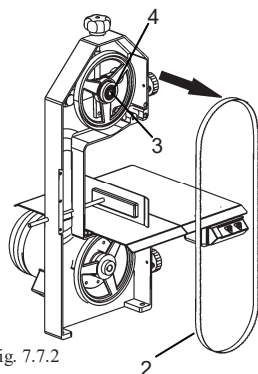

Fig. 7.7.2
- Grip blade "2" and remove from pulley as illustrated in fig. 7.7.2